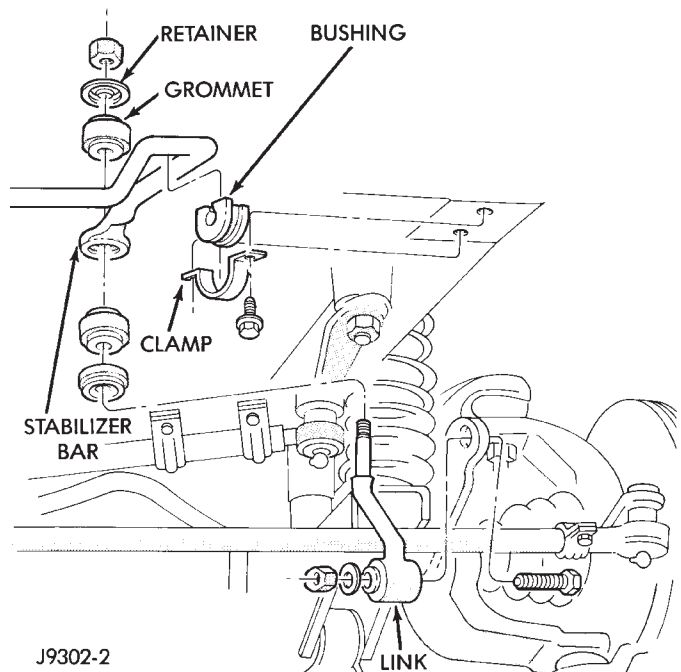

Fig. 2 Stabilizer Bar
- (1) Raise and support the vehicle.
- (2) Disconnect the stabilizer bar links from the axle brackets (Fig. 2).
- (3) Disconnect the stabilizer bar from the links.
- (4) Disconnect the stabilizer bar clamps from the frame rails. Remove the stabilizer bar.
(1) Inspect stabilizer bar bushings (Fig. 2). Replace bushings if cracked, cut, distorted, or worn.
(2) Position the stabilizer bar on the frame rail and install the bushings and clamps. Ensure the bar is centered with equal spacing on both sides. Tighten the bolts to 75 N·m (40 ft. lbs.).
(3) Install the links and grommets onto the stabilizer bar and axle brackets (Fig. 2). Tighten the nut at the connecting links at the axle bracket to 95 N·m (70 ft. lbs.) torque.
(4) Tighten the stabilizer bar to connecting link nut to 36 N·m (27 ft. lbs.) torque.
(5) Remove the supports and lower the vehicle.